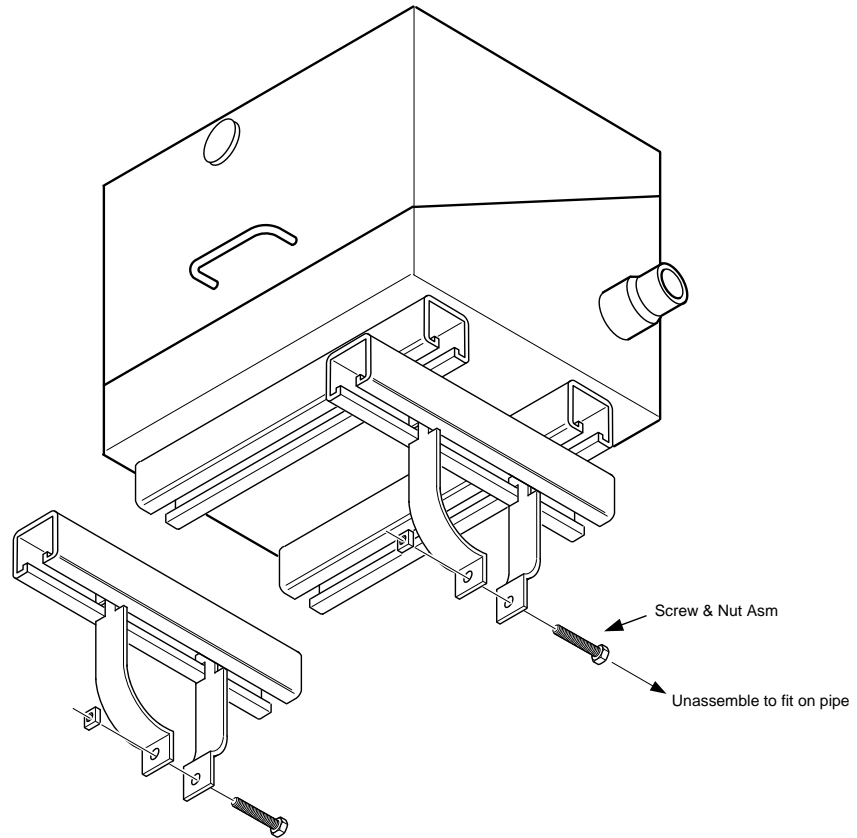

Figure 3-17 ENC82S- Pipe Mount Assembly
- 9) Slide both sides of the U-bracket into the newly mounted channel tubing (see Figure 3-17), being sure that the pieces are correctly oriented to fit around the pipe. Repeat for second bracket and tubing.